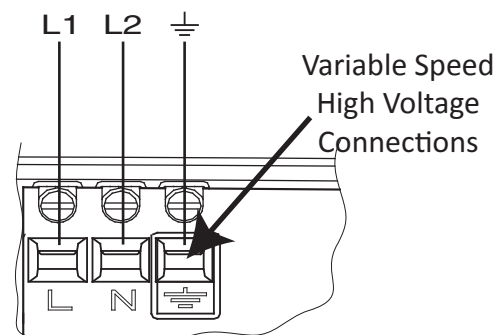

Figure 4: Variable Speed Pump High Voltage Connections
5. Complete high voltage wiring to variable speed pump. Run high voltage wiring from the “L” side of the compressor contactor (see CAUTION below) to the pump terminals (refer to Figure 4). Wiring must meet all applicable code requirements, including requirements for wire protection, such as conduit. Wire size must be at least 14 AWG copper conductor.